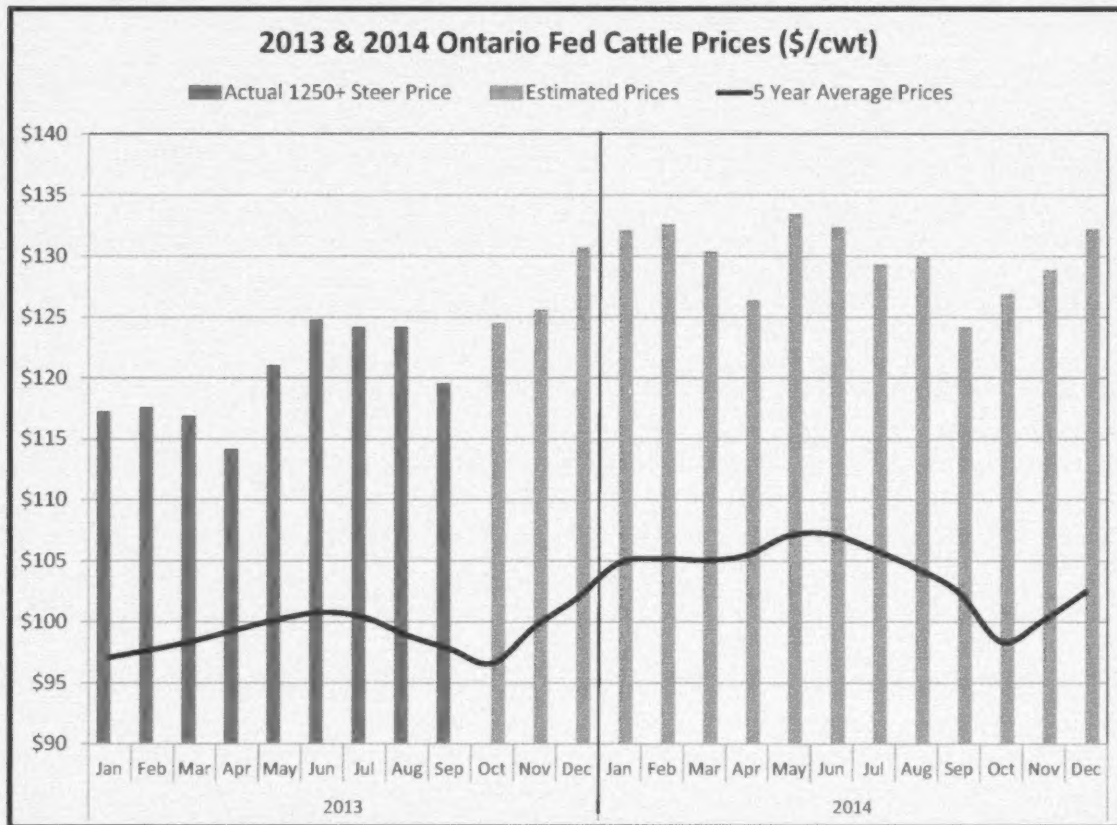

Figure 1: Ontario Fed Cattle Price Trend
Having a look forward at prices is an important tool to have. Figure 1 provides the snapshot of the prices to-date in 2013 (green bars) and estimated prices (red bars) for the coming year. Also, the current prices can be compared to the five (5) year average prices (black line). This gives a seasonal price trend pattern comparison.